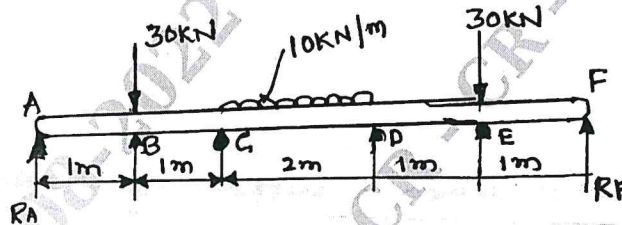

Fig Q5
- 5 Draw the SF and BM diagrams for a simply supported beam subjected to the loads as shown below Fig Q5.